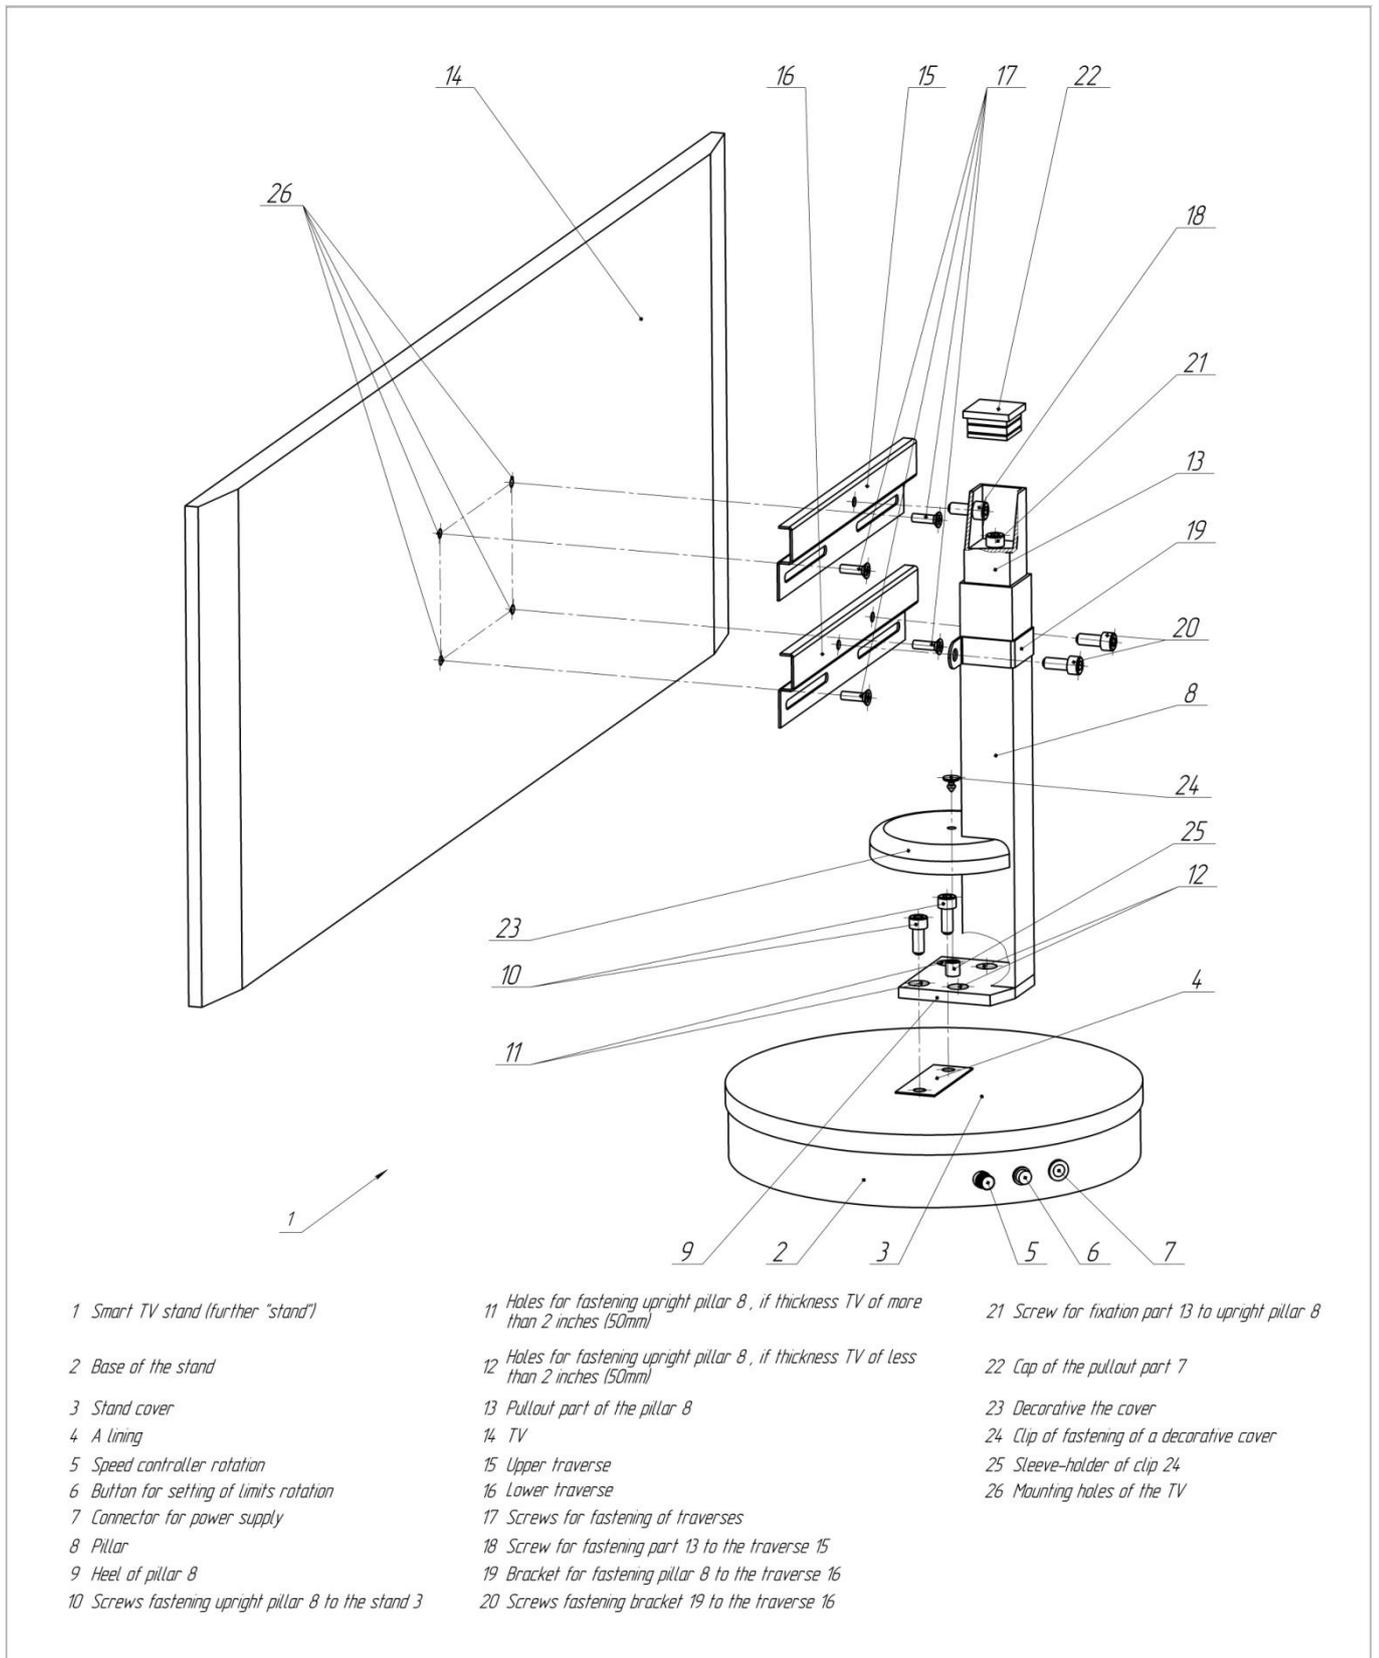

Fig.1
- 5.1 To enable setting "mode of limits the rotation" have to press the button **6** (Fig. 1) and hold it until you hear a beep.
- 5.4 Now we need to get out of the "installation rotation limits" mode. For this purpose it is necessary to press button **6** (Fig. 1) and hold it until you hear a beep.